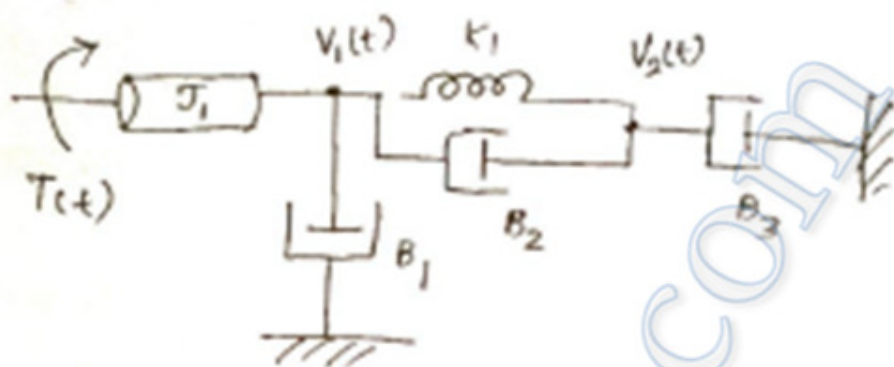

Figure 1
11. (a) For the mechanical system shown in Figure 1, carryout the following :